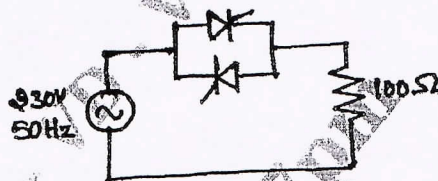

Fig.Q.8(c)
- c. Find the power consumed in the heater element if both SCRs are fired with delay angle of  $45^\circ$  for the Fig.Q.8(c). (05 Marks)